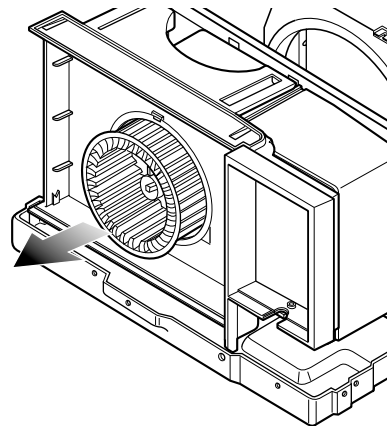

Figure 6
11. Remove the clamp with a hand plier which secures the blower.(Sww Figure 6)